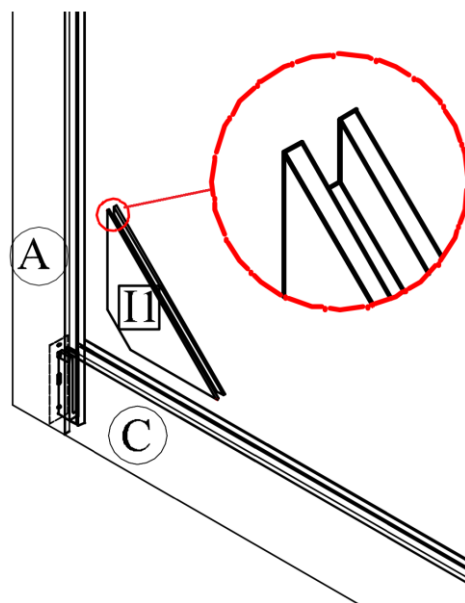

Figure 5
Firstly, insert the I1 panel (one of 2 smallest panel) into the vertical angle corner of Bottom Rail (C) and Stile (A) by fitting each opening edge into the groove of each Bottom Rail (C) and Stile (A). Make sure that the groove of I1 panel is facing outward. See **Figure 5**.